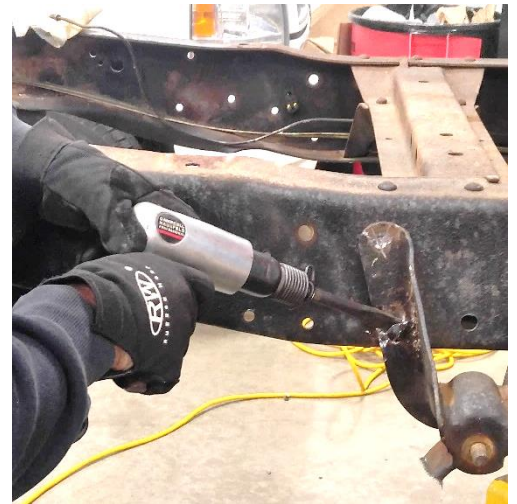

Figure 1
4. Slot and remove the 13 driver side rivets pictured, including both leaf spring mounts. Three additional rivets on the underside of the frame rail will also need to be removed. Factory bump stops should also be removed. **(Figure 1 & 2)**